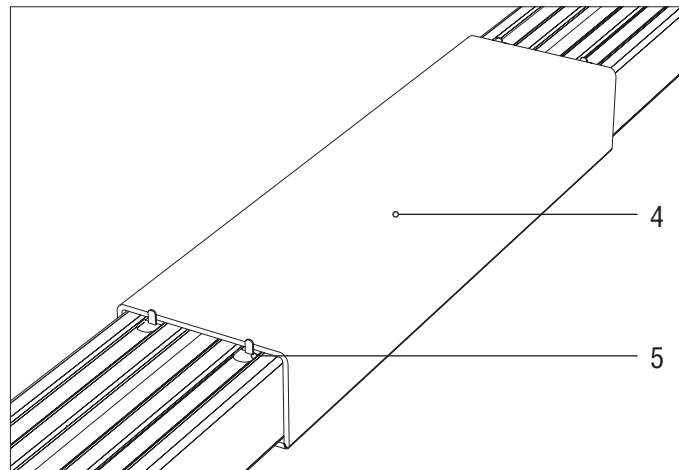

Figure 4
4. Fix clamps 4 by means of a clamp lock 5 (fig. 4).